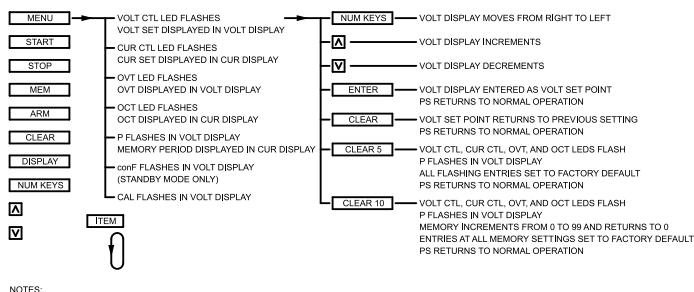
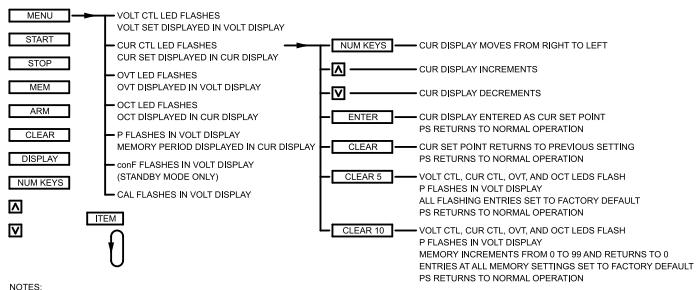
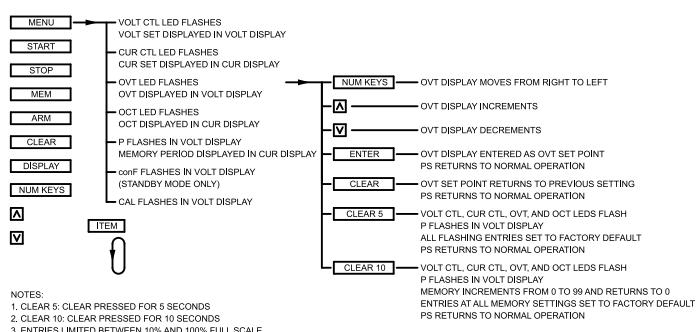
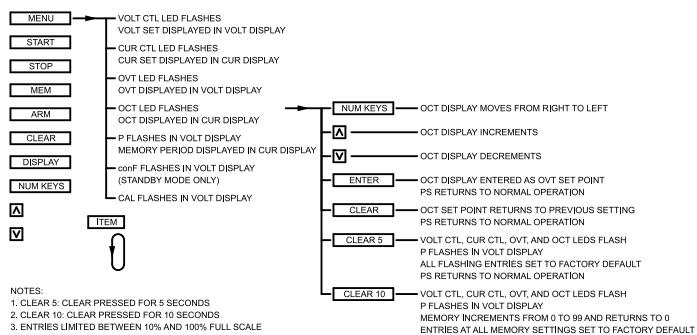

Figure 3.2. Set voltage
Figure 3.3. Set current
Figure 3.4. Set over voltage trip
Figure 3.5. Set over current trip
*Figure 3.2, “Set voltage”, Figure 3.3, “Set current”, Figure 3.4, “Set over voltage trip”, and Figure 3.5, “Set over current trip” illustrate set point commands voltage set, current set, over voltage trip set, over current trip set, and period set, respectively. All of these commands can be made when the power supply is in either the standby, alarm, or power mode states.*